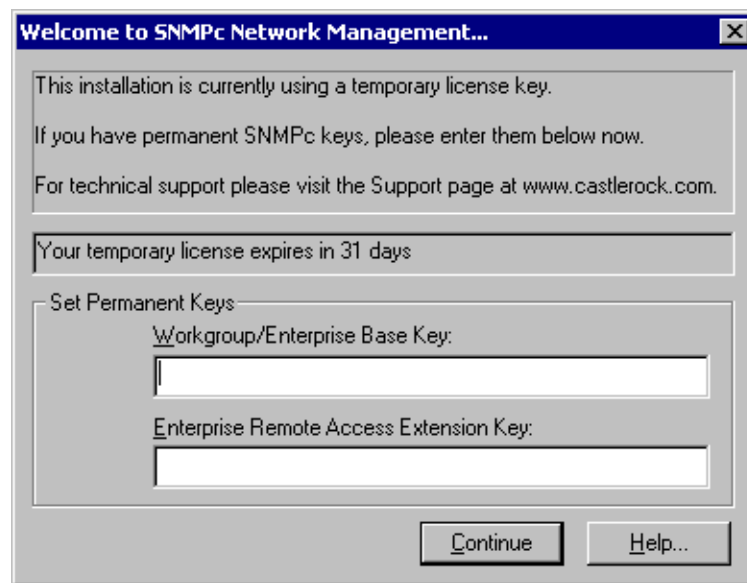

Figure 3-2. Welcome to SNMPc Network Management Dialog Box
6. The first time that RADview-PC/TDM is started and the SNMPc platform opens, the **Welcome to SNMPc Network Management** dialog box appears (see *Figure 3-2*).
The Welcome to SNMPc Network Management dialog box appears again (see Figure 3-2).